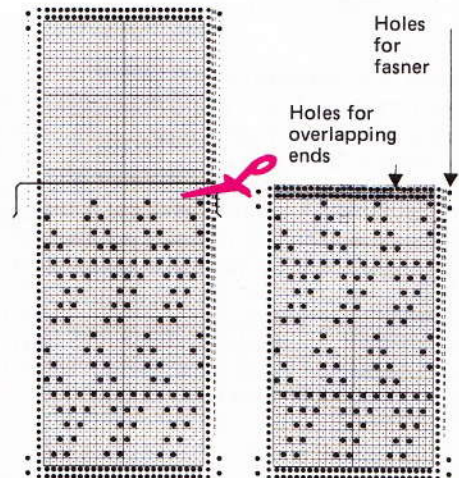

Fig. 208
5. For a pattern of less than 60 rows cut out the card as shown on fig. 208.